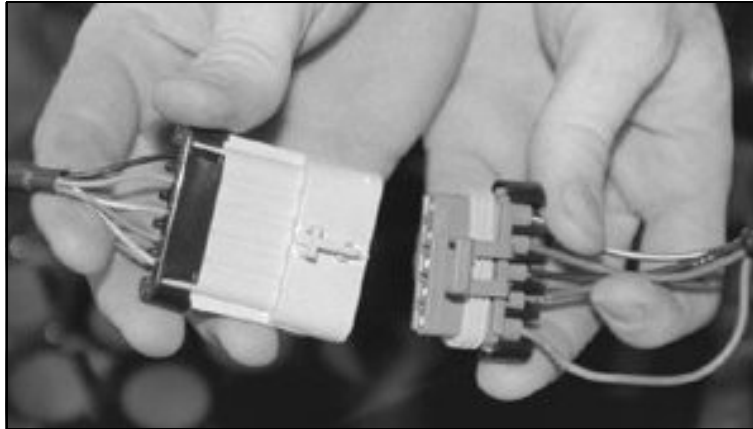

Figure 2.8 CASE power/data cable connection
2. Attach the flat, gray 5-pin connector on the CASE AFS power/data cable to the matched female AFS connector (see Figure 2.8).
2. Connect the flat, gray 5-pin connector on the CASE AFS power/data cable to the matched female AFS connector. See Figure 2.8 on page 28.